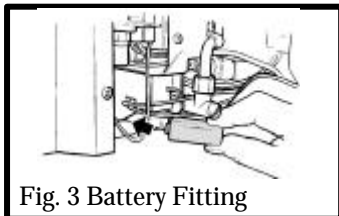

Fig. 3 Battery Fitting
3.1.1 Fit the battery to the ignition block located below the burner tray at the left side (see figure 3). The positive terminal (+) is to the right as you insert.